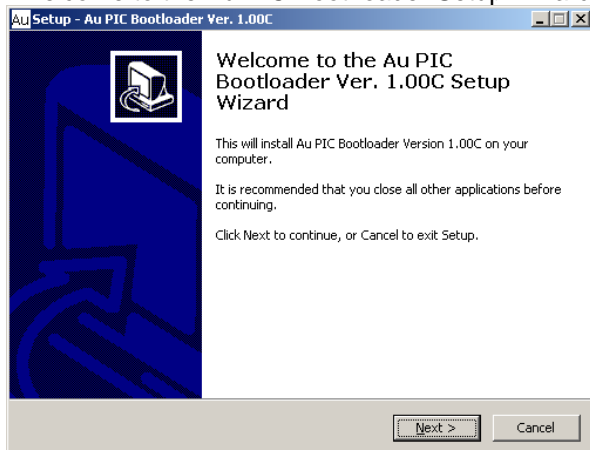

Figure C-2
2. “Welcome to the Au PIC Boot-loader Setup Wizard” window will show up, click “Next” (Figure C- 2)